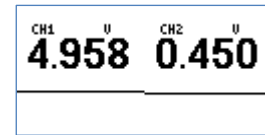

Figure 59: Meter mode
- 3) You should see similar voltages as shown on figure 59.